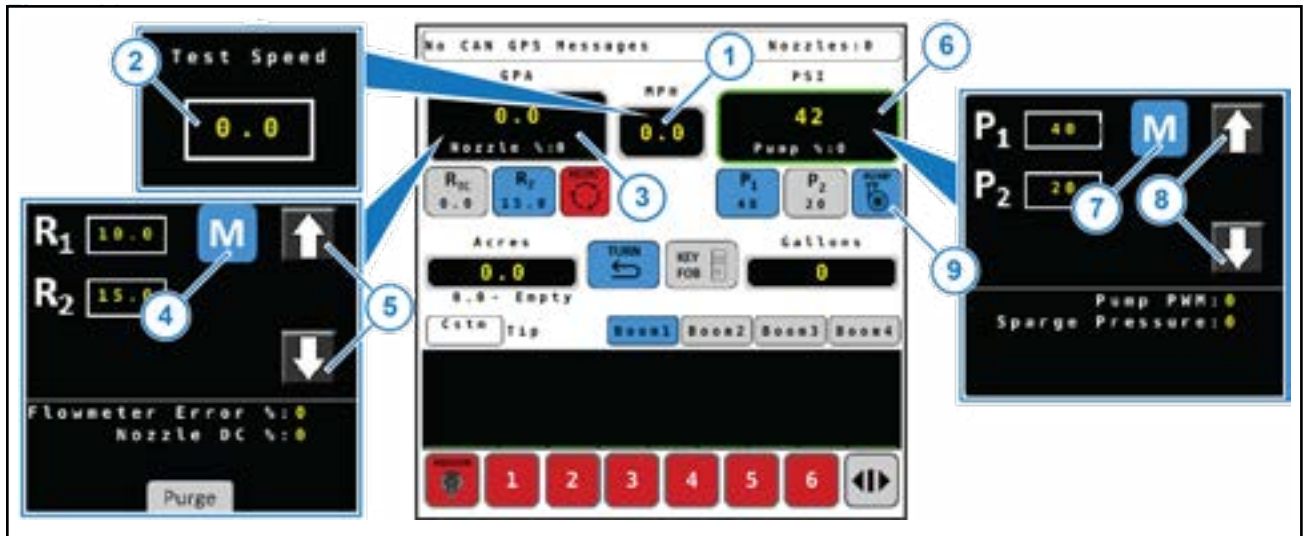

Figure 31: Boom Shutoff Wet Test
5. Select the speed box (Figure 31, Item 1).
6. Set a test speed (Figure 31, Item 2).
7. Select the rate box (Figure 31, Item 3).
8. Select M (Figure 30, Item 4) and then use the arrow icons (Figure 31, Item 5) to change the rate.
9. Select the pressure icon (Figure 31, Item 6).
10. Select M (Figure 31, Item 7) and then use the arrow icons (Figure 31, Item 8) to change the pressure.
11. Select the Pump icon (Figure 31, Item 9) to turn on pump.